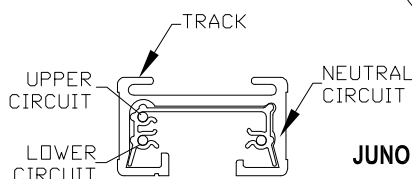

FIG. 5
B. ADAPTER: (JUNO 2 CIRCUIT TRACK), FIG.5